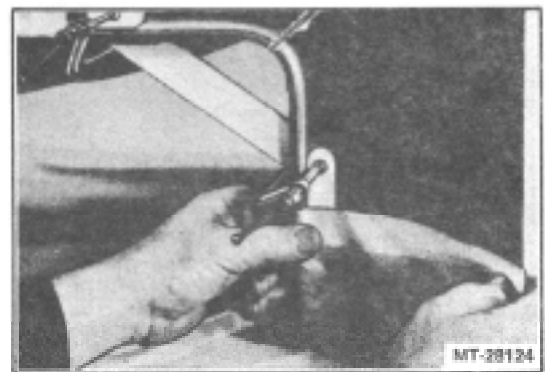

Figure 25. - Masking Undamaged Area
3. Mask off undamaged surface, leaving a working area of approximately 5 inches surrounding the damaged area (Figure 25).